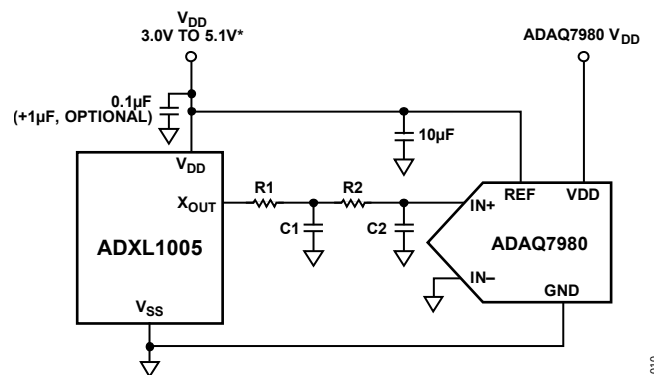

Figure 23. Application Circuit for the ADXL1005
See Figure 23 for an example of the interface, including components when measuring mechanical vibration from 0 kHz to 5 kHz. For a 5 kHz pass band, a single-pole resistor capacitor (RC) filter is acceptable. However, in some applications, use of a more aggressive filter and lower sample ADC sample rate is possible. The following components are recommended to form a 5 kHz low-pass RC filter at the output of the ADXL1005 when interfacing to an ADC, such as the AD7980:  $R1 = 91\text{ k}\Omega$ ,  $C1 = 330\text{ pF}$ ,  $R2 = 0\text{ }\Omega$ , and  $C2$  is not required. A minimum ADC sample rate of 16 kHz is recommended to avoid aliasing. When using sampling rates less than the resonance frequency (typically 42 kHz), be aware and account for the effective gain at the output of the sensor due to the resonance to ensure out of band signals are properly attenuated and do not alias into the band.
See Figure 23 for an example of the interface, including components when measuring mechanical vibration from 0 kHz to 10 kHz. The following components are recommended to form a two-pole RC filter at the output of the ADXL1005:  $R1 = 500\text{ }\Omega$ ,  $C1 = 10,000\text{ pF}$ ,  $R2 = 1\text{ k}\Omega$ , and  $C2 = 10,000\text{ pF}$ . A minimum ADC sample rate of 200 kHz is recommended to avoid aliasing.